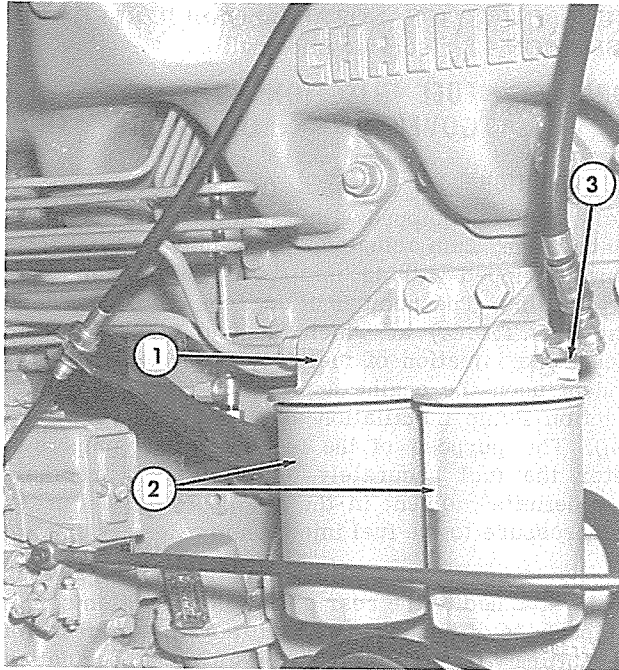
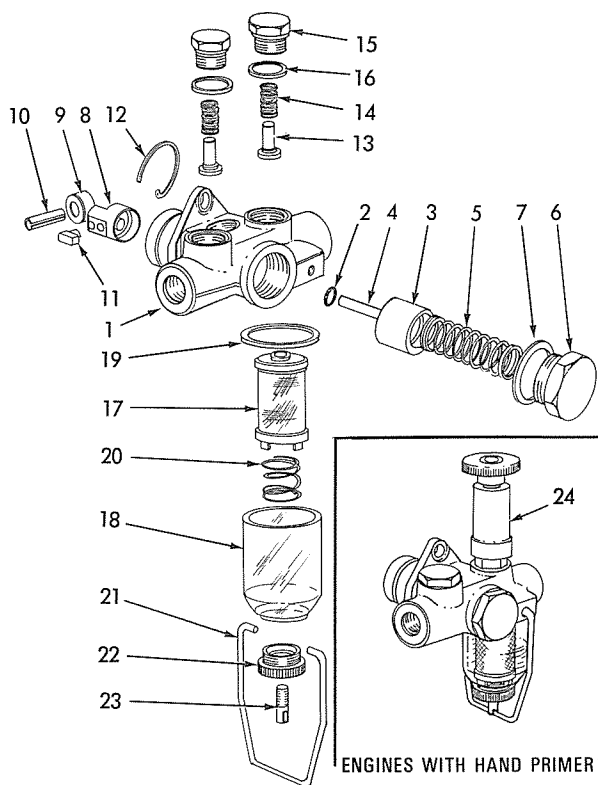

Fig. 2 Fuel Filters
Fig. 3 Fuel Transfer (Supply) Pump
Loosen vent screw, Fig 2 (3). Crank engine with starter. If fuel containing bubbles flows from around vent screw, air being drawn into system on suction side of transfer pump is indicated. Correct this condition by tightening any loose low pressure fuel line connections, fuel filter elements, and sediment bowl.
Loosen vent screw, Fig. 2 (3). Crank engine with starter. If a full flow of fuel is not obtained from around the vent screw, a clogged or collapsed fuel line or a clogged filter element is indicated. If this condition exists, replace clogged filter elements, or clean or replace fuel line.
1. The transfer pump filter, Fig. 3 (17) and sediment bowl (18) should be inspected after every 10 hours of operation; if sediment or water has collected in sediment bowl, remove sediment bowl and filter and clean. Filter should always be removed and cleaned after every 600 hours of operation or when fuel filters are replaced. Clean filter as follows:
- b. Loosen clamping nut (22), swing clip (21) to one side and remove sediment bowl and filter.
- d. Inspect sediment bowl gasket and replace if necessary. Position spring (20) and filter (17) in sediment bowl.
- e. Install bowl with filter on transfer pump; be certain sediment bowl is properly seated against gasket. Move clip (21) into position and tighten clamping nut finger tight.
2. Remove and discard fuel filters, Fig. 2, and install new filters after every 600 hours of operation (more often if conditions warrant) or when fuel filters become clogged and a pressure of less than 19 psi is indicated by fuel pressure gauge. Clogged filters are usually indicated by irregular engine performance. Replace filters as follows:
- e. Loosen pipe plug, Fig. 2 (3), in rear end of filter head; with engine shut-off in OFF position, crank engine with starter until a full stream of fuel (free of bubbles) flows from around pipe plug; tighten pipe plug while continuing to crank engine.